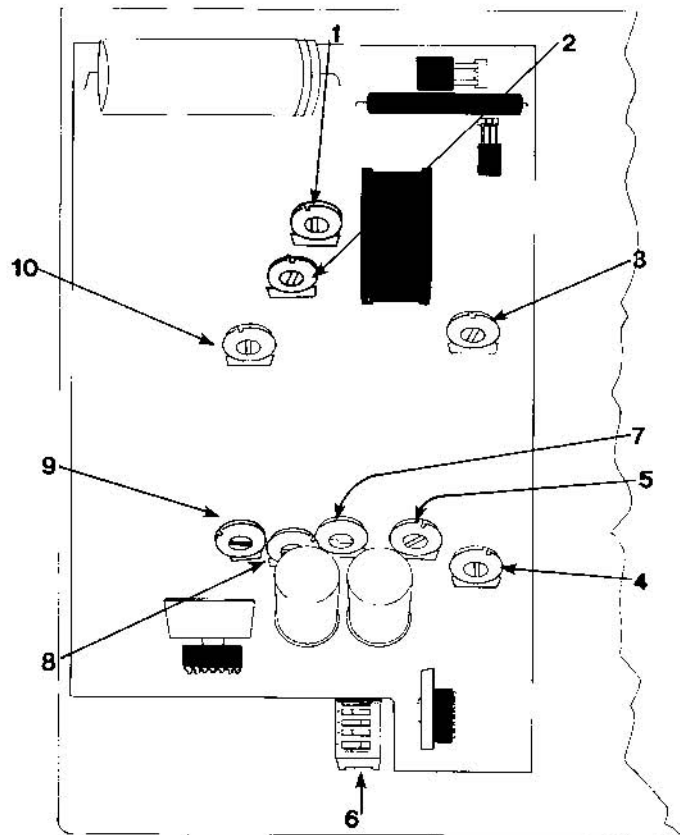

Figure 2: Audio Board Adjustments
CRASH has three switch selectable options. These are controlled by a seven segment DIP switch located on the main logic board at position 14A (see Figure 2, item 6). This switch is accessible from the front of the game though the coin door.
IV. AUDIO ADJUSTMENTS (Figure 2)